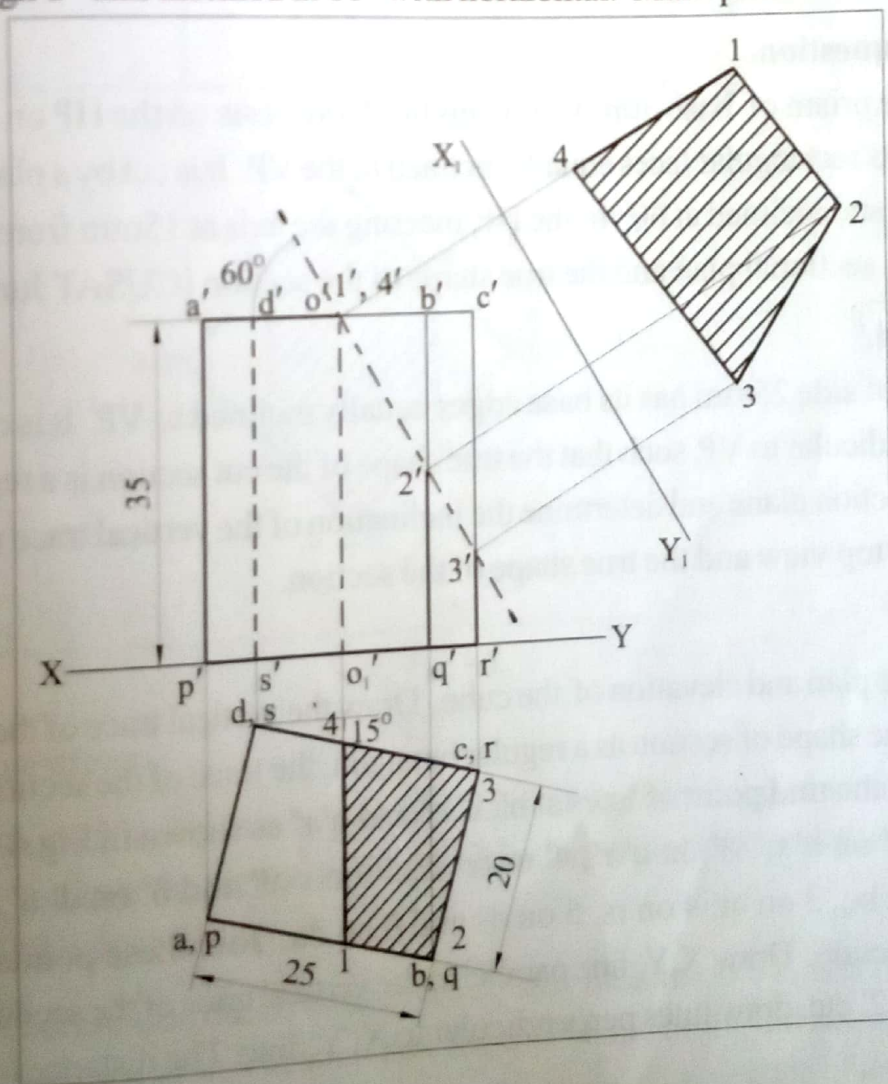

Fig. 4.5.
*b' c', 3' on c' r' and 4' on c' d'. Locate the points 1, 2, 3 and 4 in the plan. Point 1 on ab, 2 on bc, 3 on cr and 4 on cd. Join these points to get the plan of section as shown in Fig. 4.5. Draw  $X_1 Y_1$  line parallel to the trace of the cutting plane, at any convenient position. From these points 1', 2', 3' and 4' draw lines perpendicular to  $X_1 Y_1$  line. Mark points 1, 2, 3 and 4 in the true shape of the section such that the distance of 1 in the true shape from  $X_1 Y_1$  line is equal to the distance of point 1 in the plan from XY line. The distance of point 2 in the true shape from  $X_1 Y_1$  line is the distance of 2 in the plan from XY line. Like this locate points 3 and 4. Join these points as shown in Fig. 4.5.*